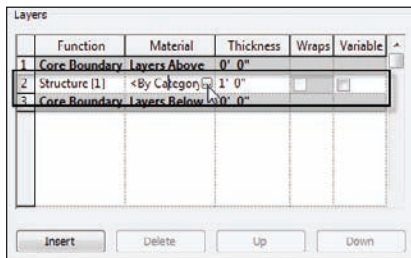

FIGURE 6.6 By clicking in the Material cell within the Structure row, you can access the Materials dialog.
1. You will see that the Structure row is divided into columns. Click into the Material column within the Structure row, as shown in Figure 6.6.